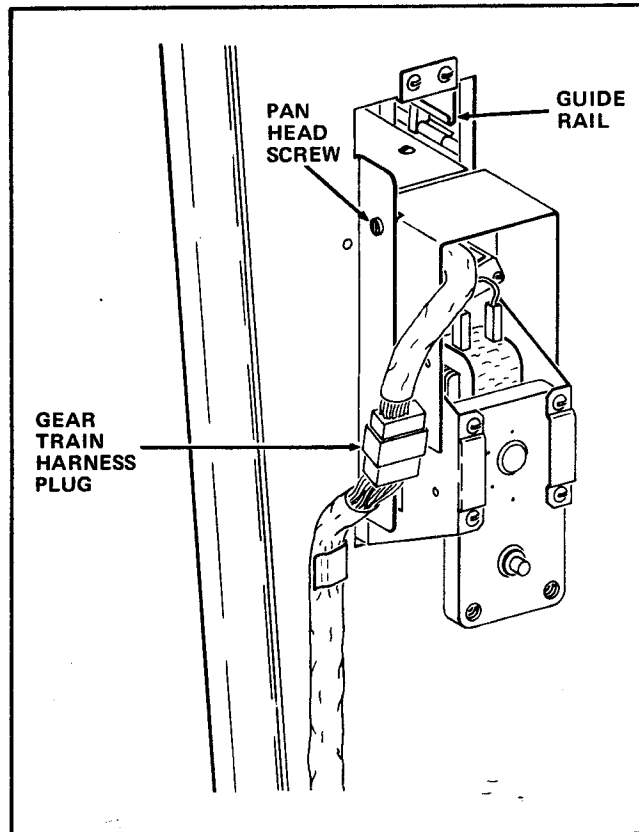

FIGURE 1
4. Disconnect the Gear Train Harness Plug from its receptacle. See Figure 1.